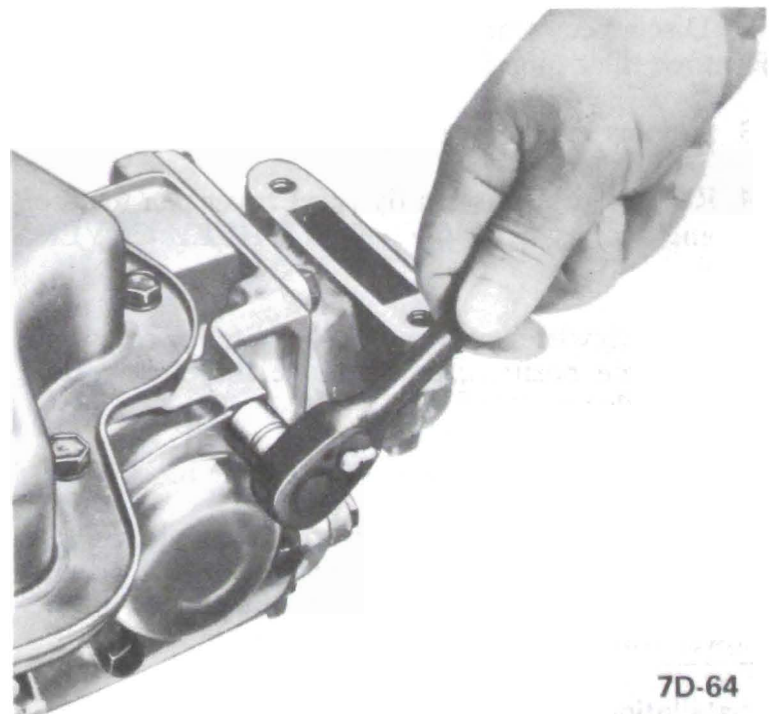

Figure 7D-64
four (4) attaching bolts. Torque bolts to 15-20 lb.ft. See Figure 7D-64.